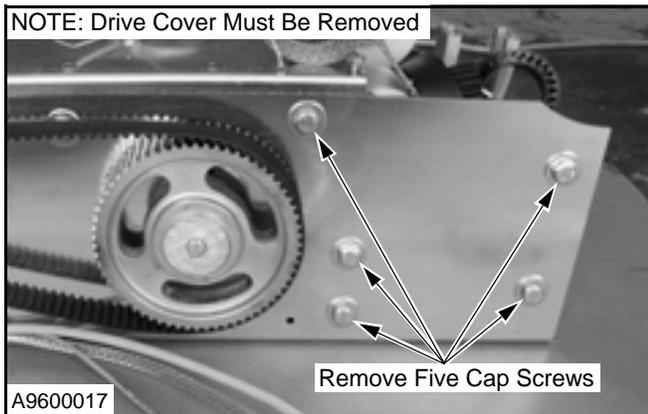
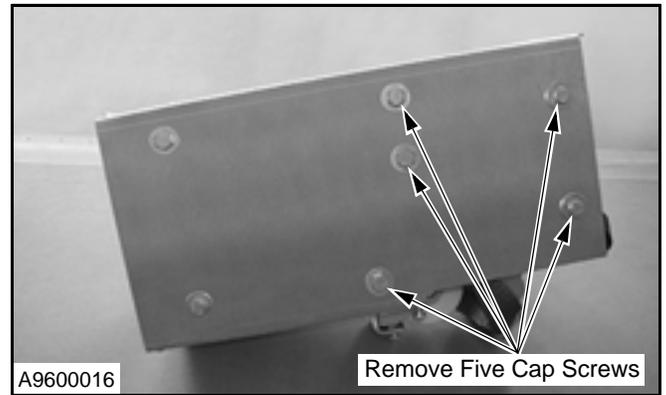

Figure 21
Figure 22
- Remove cap screws on both consoles. Retain the fasteners to use for the installation of the console to the side columns. (See Figure 21 and Figure 22.)